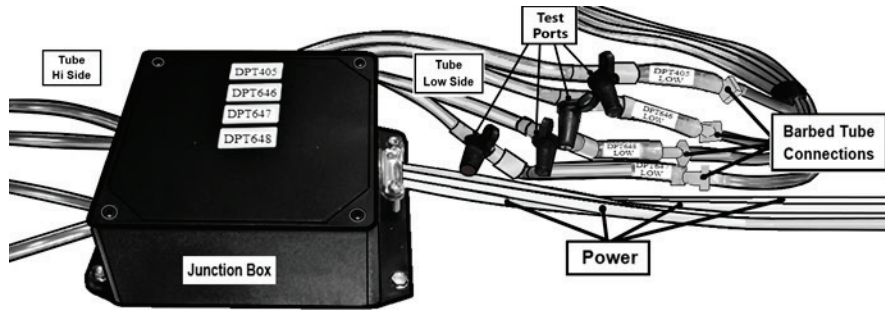

Figure 41 - Differential Pressure Tubing
- Connect corresponding tube numbers to barbed tube connections in the main electrical enclosure as shown in Figure 41.